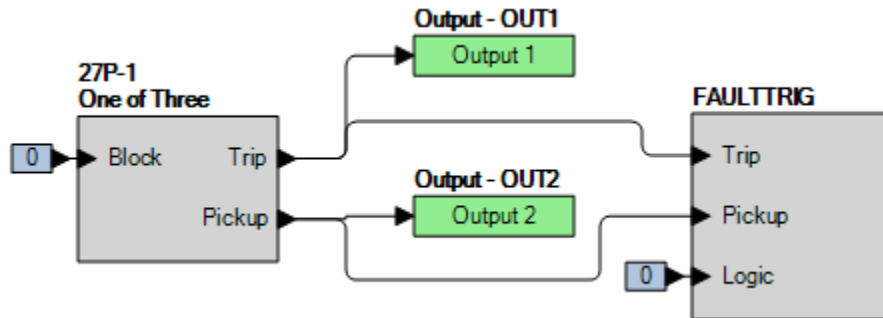

Figure 58-1. *BESTlogicPlus* Settings
Step 2: Use *BESTCOMSPlus* to configure the *BESTlogicPlus* programmable logic shown in Figure 58-1.
Step 4: Prepare to monitor the 27P-1 function operation. Operation can be verified by monitoring OUT2 (see Figure 58-1).